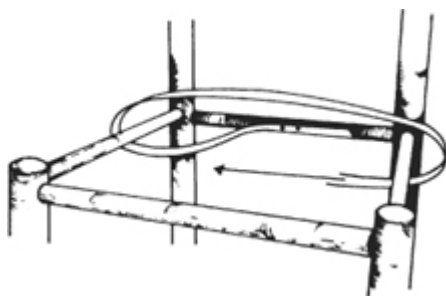

fig. 24
5. Bring the end across to and over and under the right rail, and then back under and over the left rail. See Figure 24.